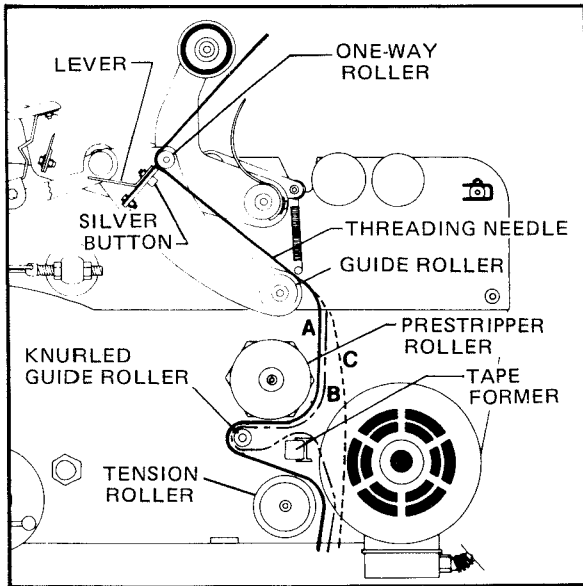

FIGURE 5A
- 2) For subsequent tape loading operations, use the red plastic threading needle and follow the loading procedures given in figures 5A, B, C and D to complete the tape loading.
FIGURES 5A & 5B - Insert red plastic needle downward around one-way roller as illustrated in figures above. For units using external anti-back up device, illustrated in Figure 5A, press spring away from roller by utilizing silver button or lever allowing needle to pass between tip of spring and roller.